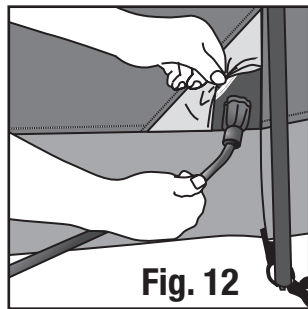

Fig. 12
**NOTE:** Use only UL approved cords rated for outdoor usage. (Fig. 12)